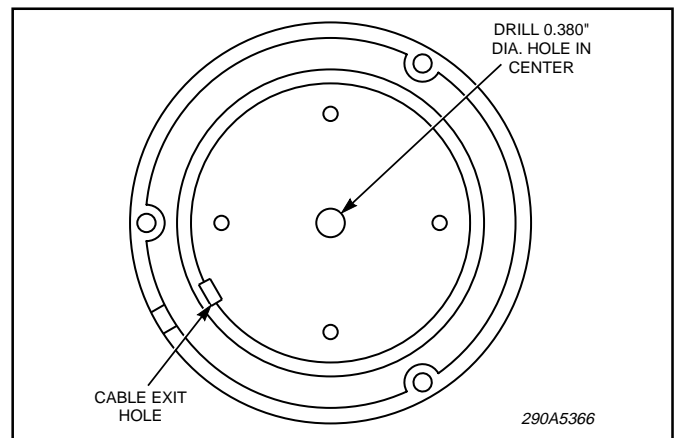

Figure 1.
- C. Scribe a drill position mark at the center of the plastic base. Drill a 0.380" hole at the drill position mark. See figure 1.